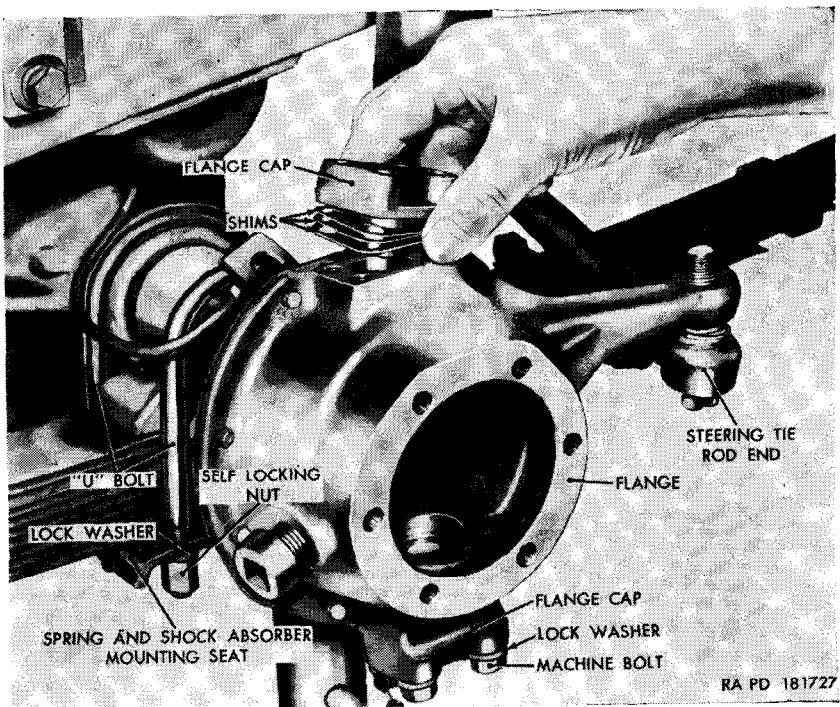
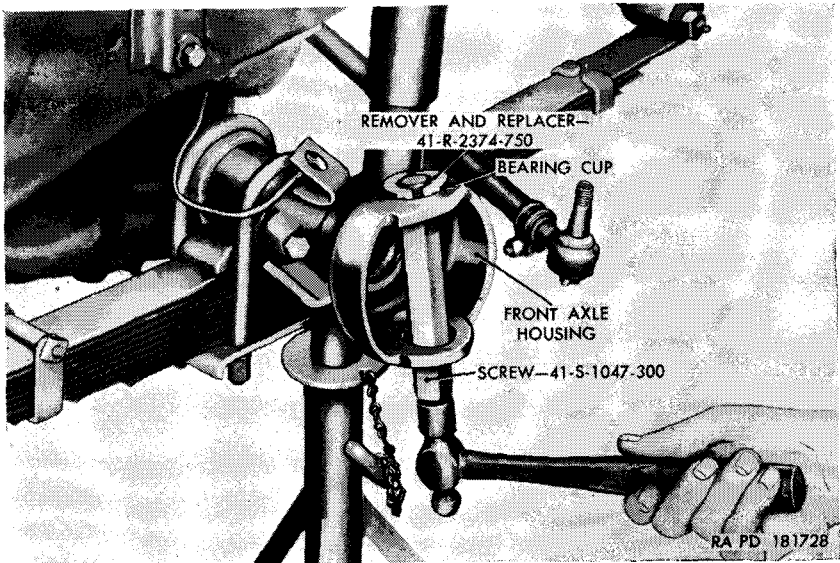

Figure 105. Removing steering knuckle flange cap from steering knuckle flange with arm assembly.
Figure 106. Removing steering knuckle flange cap bearing cup from front axle housing with remover and replacer 41-R-2374-750 and screw 41-S-1047-300.
- (5) Remove the two remaining bolts and lockwashers securing the steering knuckle flange cap in position and pry the cap and shims (fig. 105) out of the steering knuckle flange.
- (6) Remove the four bolts and lockwashers securing the (lower) steering knuckle flange cap in position and pry the cap out of the steering knuckle flange (fig. 105).
- (7) Remove the steering knuckle flange oil seal assembly (par. 229a).
- (8) Pull the steering knuckle flange off the front axle housing and steering tie rod end.
- (9) Lift one steering knuckle flange cap bearing cone out of the steering knuckle flange and the other cone out of the front axle housing.
- (10) Position the remover and replacer 41-R-2374-750 and screw 41-S-1047-300 (fig. 106) in the front axle housing and drive the steering knuckle flange cap bearing cup out of the housing. Remove the lower steering knuckle flange cap bearing cup in the same manner.
- (1) Position a steering knuckle flange cap bearing cup in upper section of the front axle housing with the small end of the bearing taper facing down. Place the remover and replacer 41-R-2374-750 (fig. 106) in the bearing cup. Install the screw 41-S-1047-300 (fig. 106) in the remover and replacer and drive the bearing cup into the housing until upper edge of cup is flush with housing.
- (2) Position a steering knuckle flange cap bearing cup in the lower section of front axle housing with small end of bearing taper facing up. Place the remover and replacer 41-R-2374-750 (fig. 106) in the cup. Install the screw 41-S-1047-300 (fig. 106) in the remover and replacer and drive the cup into the housing until the upper edge of the cup is flush with the housing.
- (4) Insert one steering knuckle flange cap up through the lower section of the steering knuckle flange (fig. 105). Secure the cap to the flange with four $\frac{3}{8}$ -inch lockwashers and $\frac{3}{8}$ x $1\frac{1}{2}$ bolts.
- (5) Insert a steering knuckle flange cap and shims (fig. 105) into the upper section of the steering knuckle flange. Secure the cap to the flange with two $\frac{3}{8}$ -inch lockwashers and $\frac{3}{8}$ x $1\frac{5}{8}$ bolts, in the two outside holes. The thickness of shims must be adjusted until vertical movement of the flange is eliminated and there is only slight drag when the flange is turned.
Place the spring and shock absorber mounting seat (fig. 105) over the ends of the U-bolts with the free end of the shaft of the mounting seat forward and pointing outward. Secure with four $\frac{7}{16}$ -inch lockwashers and U-bolt nuts. Repeat the procedure on the other side of the vehicle.